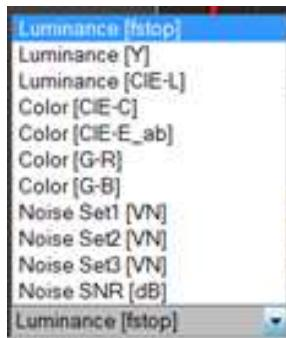

Figure 63. Screenshot of Results Mode Luminance Options
6. The first button space allows you to choose one of the following ten display options (Figure 63):